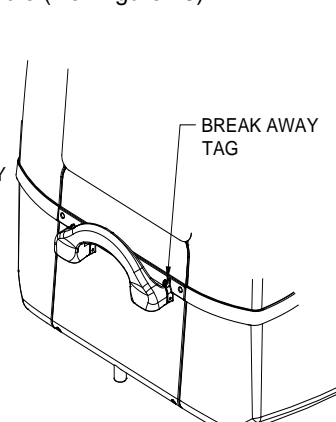

Figure 13
- F. Place easy Break Away Tag through hole provide on right side of handle (Ref Figure 13)
2. Visually inspect easy Break Security Tag is intact (Ref Figure 13).